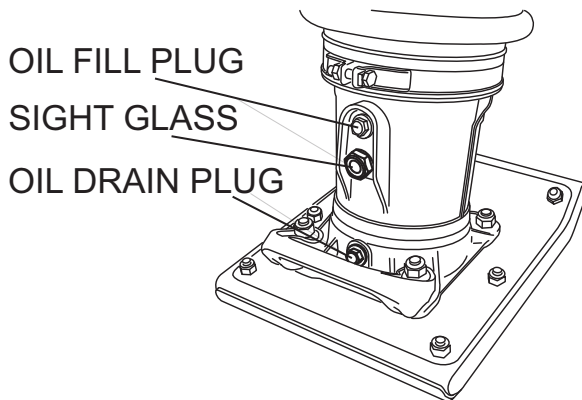

Figure 2. Foot Housing Sight Glass
1. Check the oil level through the oil level sight glass (Figure 2) at the rear of the tamper foot.
2. If oil is not visible, add 10W-30 SE, SF or higher grade motor oil into the oil fill plug opening (Figure 2). The bath contains approximately 1.7 pints (800 cc.)